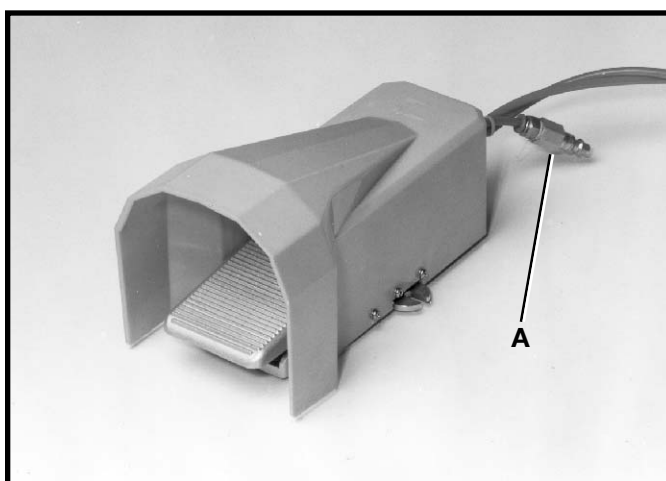

Fig. 12
A 1/4 inch N.P.T. inlet (A) Fig. 12, is supplied with the boring machine for connecting the machine to your air supply. **NOTE:** A 1/4" to 3/4" air hose will supply adequate air to operate the machine; air pressure of 60 to 120 PSI is suitable. If your shop pressure is over 120 PSI, reduce pressure into the machine with a regulator to approximately 90 - 100 PSI.